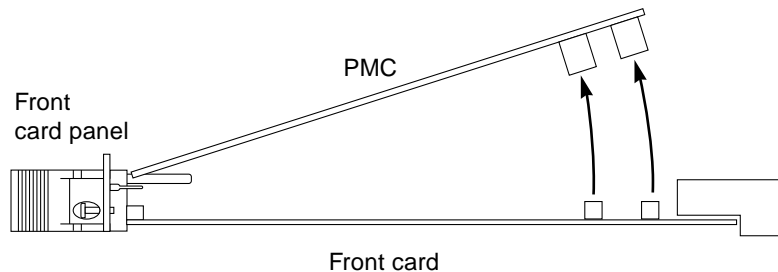

FIGURE 4-4 Removing the PMC From the Adapter (Side View)
3. Turn the card right side up, and gently pull the PMC up off of the front card, lifting the connectors side first (FIGURE 4-4).